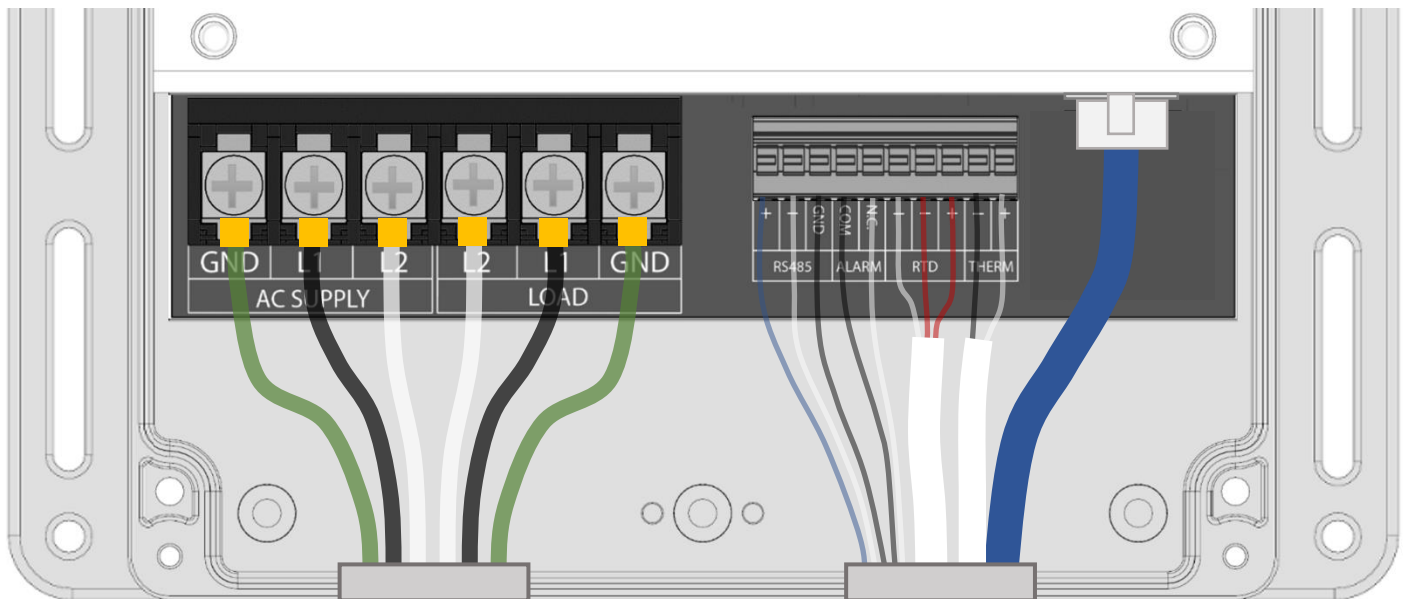

Figure 3: Top view of the Frio S1 controller with the wiring cover removed, showing all possible wiring connections.
1. With the controller mounted and both the clear cover and the wiring cover removed, connect low voltage sensor and communications wires according to the image in Figure 3. Always ensure the system is de-energized before making any wiring connections.
3. Connect heat trace leads to the **LOAD** side as shown in Figure 3. The ground sheath of the heat trace must be connected to the ground terminal on the controller.
4. Connect the power leads to the **AC SUPPLY** as shown in Figure 3. The ground connection on the controller must be properly connected to ground in accordance with local and national electrical codes.